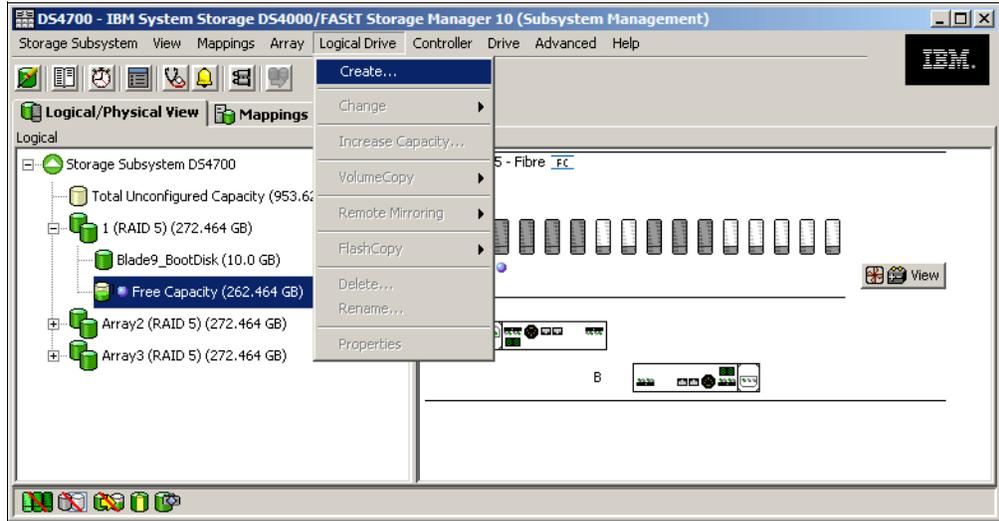

Figure 10-17 Create logic drive
2. Create a logical drive to be used as the boot disk (C drive) using the create logical drive wizard (Figure 10-17).